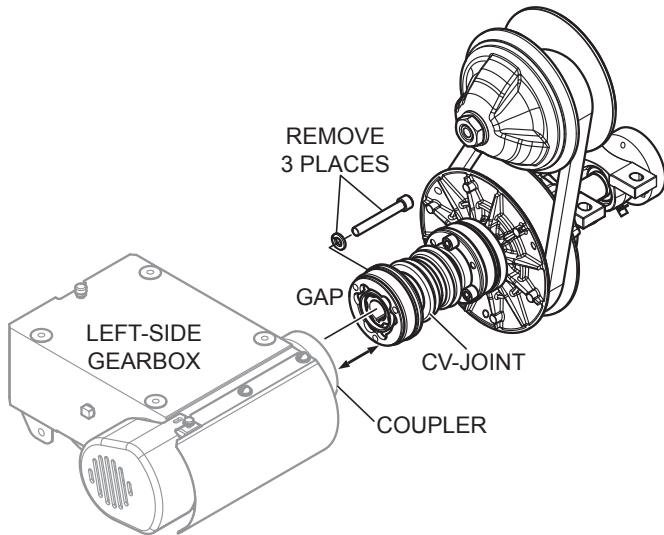

Figure 23. CV-Joint Removal
2. Starting at the left-side gearbox, use a 1/4" Allen wrench and remove the 3 bolts and lock washers that secure the CV-joint (Figure 23) to the left-side gearbox. Retain the mounting hardware for later use.
3. Once the CV-joint has been separated from the left-side gearbox coupler, push the CV-joint inward so that a gap exists between the gearbox coupler and CV-joint (Figure 23).